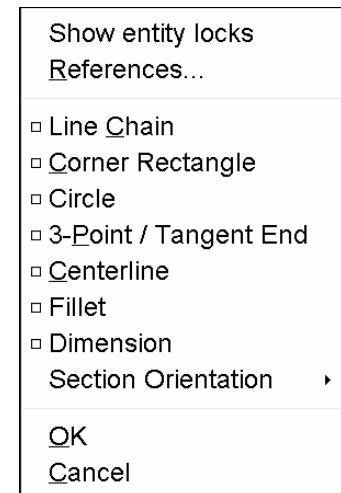

Figure 17 RMB pop-up menu in Sketcher
- hold down the RMB and select **Line Chain** from the pop-up menu (Figure 17).
Now we'll add a couple of rounded corners, technically known as fillets, on the top corners of the sketch to help us "see" the orientation of the feature in 3D. Select the **Fillet** command from the RMB pop-up menu (Figure 17) and pick on the top and right lines in the sketch close to but not at the corner. A circular fillet is created to the pick point closest to the corner. Two tangent constraints (T) are added, along with a weak dimension for the fillet radius. Do the same on the top and left lines. Middle click to return to Select mode.